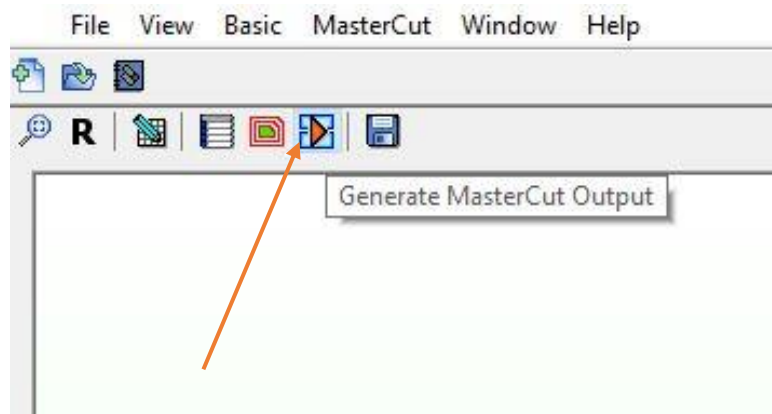

Figure 187
28. The main part is already done. Generate the MasterCut output by with  (Figure 187).